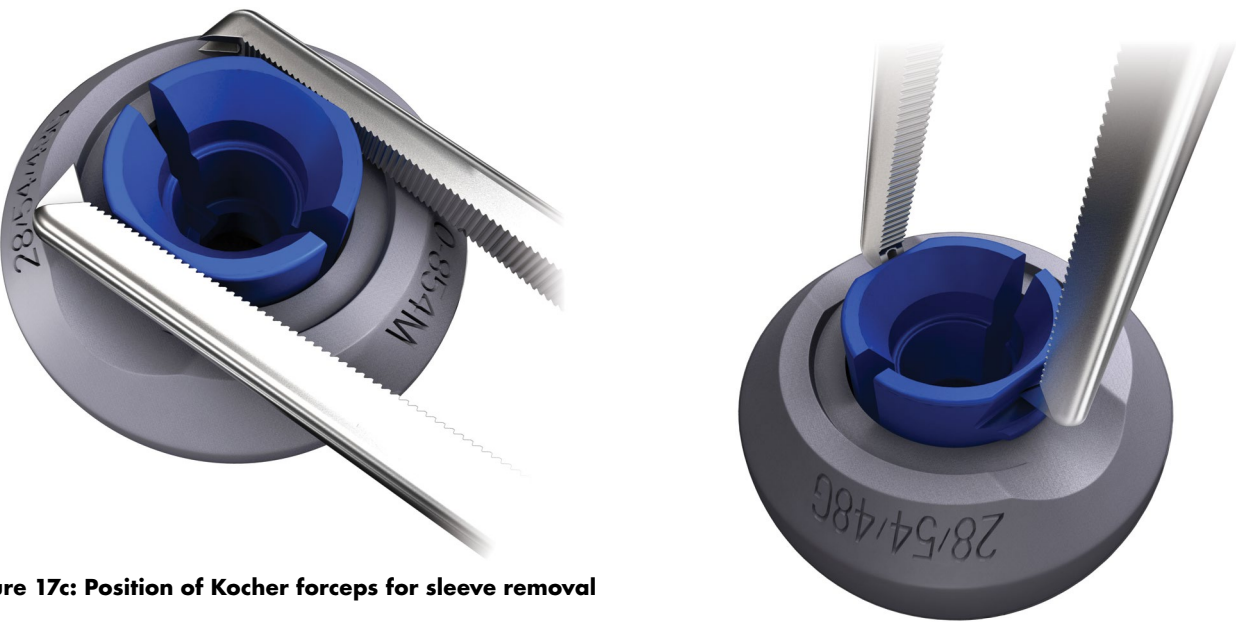

Figure 17c: Position of Kocher forceps for sleeve removal
- Once hip stability and leg length have been checked, the Dual Articulating or Monopolar Trial assembly can be removed from the neck trial or trunnion as one unit. If using the Monopolar Trials, the Trial Sleeve can then be removed from the Insert Trial with the assistance of standard Kocher forceps by squeezing the Trial Sleeve and pulling it out of the Insert Trial (**Figure 17c**). This can also be accomplished by hand.